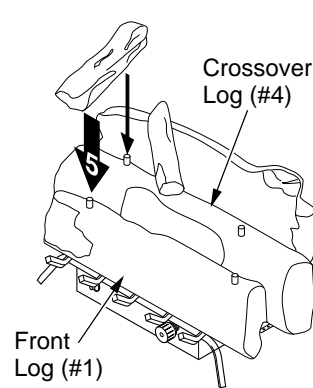

Figure 32 - Installing Crossover Log (#5) (CCL3018NT and CCL3018N Only)
6. **For CCL3018NT and CCL3018N Only:** Locate holes on the bottom of crossover log (#5). Slide the holes over the left pins on middle log (#2) and front log (#1). See Figure 32.